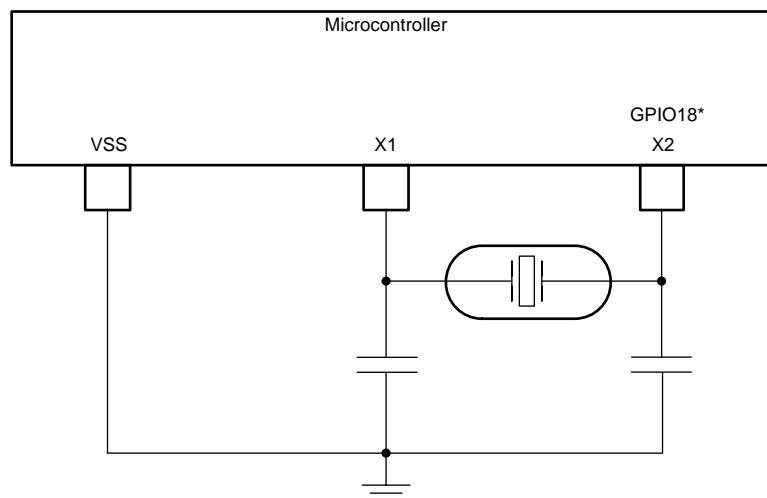

Figure 5-13. External Crystal
- An external crystal. The crystal should be connected across X1 and X2 with its load capacitors connected to VSS as shown in Figure 5-13.